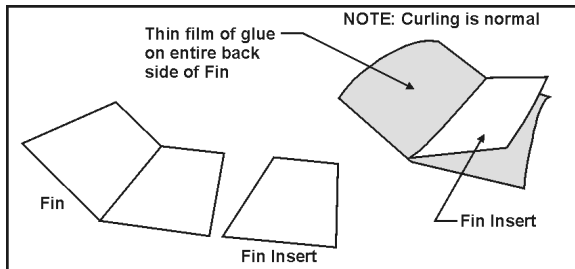

**Figure 8**
- Cut out all 3 Fins and all 3 Fin Inserts. Referring to **Figure 8**, lightly score the centerline on the printed side of each Fin pattern, being careful not to cut all the way through the pattern. Crease each Fin at this score line.